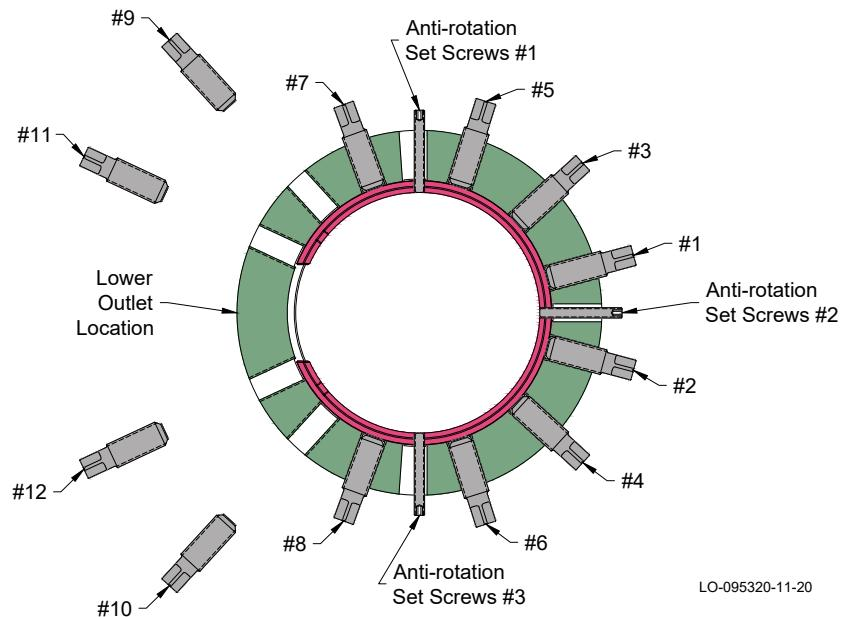

Figure 17: Casing Head Housing Tie-down Screw Pattern
- tie-down screws #1-8 are retracted from the bore as indicated in Figure 16; tie-down screws #9-12 are removed from the body and set aside as indicated in Figure 17